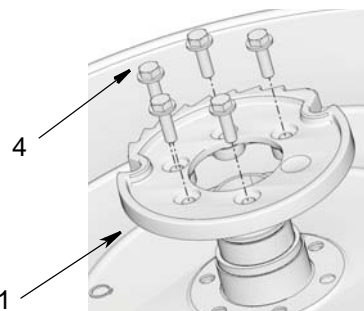

FIG. 23
21. Remove bolts (4) holding ratchet (31) to spool (FIG. 23).